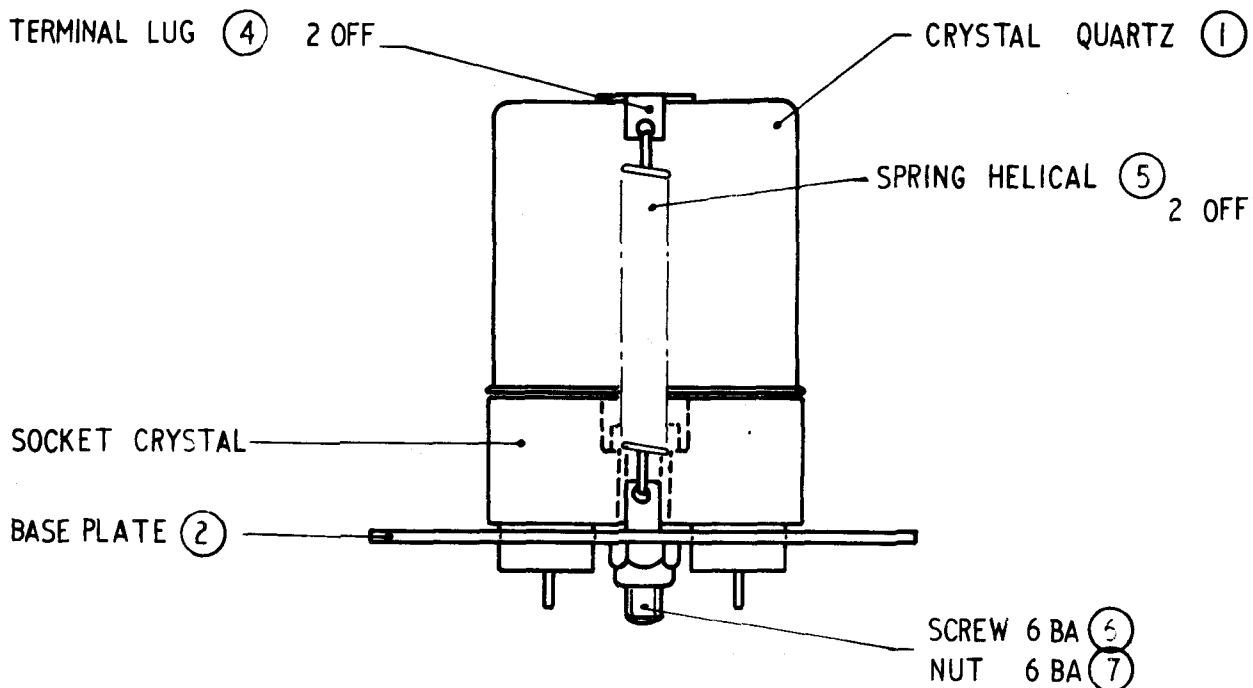

Fig 1 - Crystal unit assembly showing the new socket and the modification kit item numbers.
- k. Referring to Fig 1 assemble the new quartz crystal socket with the Base Plate, Sub para 8.a., Item 2, and the Crystal Retainer Assembly, Item 3, using Item 4, two Terminal Lugs, Item 5, two helical springs, Item 6, one 6 BA screw and Item 7, one self locking nut.